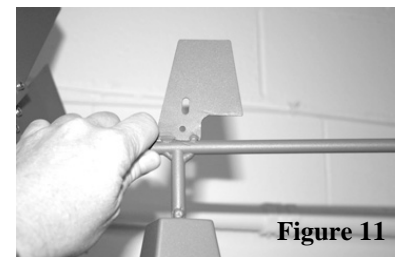

Figure 11
Slide the Mast Head Washer (B) onto the post of the Wheel Arm (K) and the guide the post of the Wheel Arm (K) and the complete tail assembly into the hole on the top of the Mast Head (A). Figure 11.